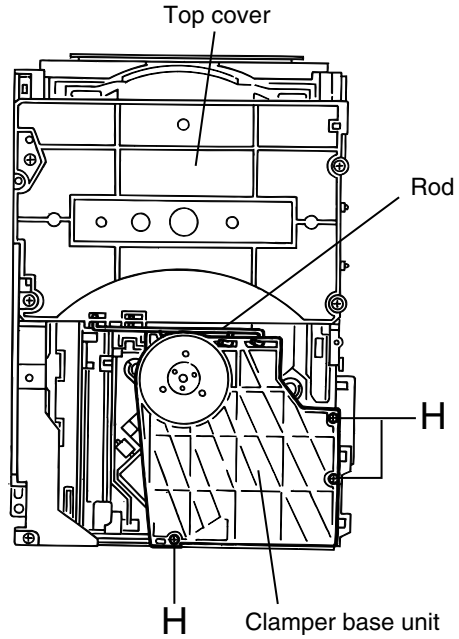

Fig.16
■ **Removing the pickup (See Fig.16 to 20)**